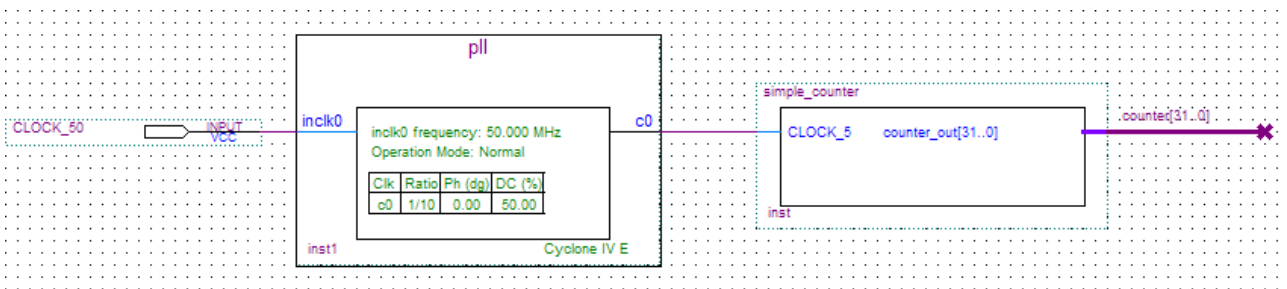

Figure 6-32 Circuit schematic (BDF)
4. Click **OK**. **Figure 6-32** shows the BDF.